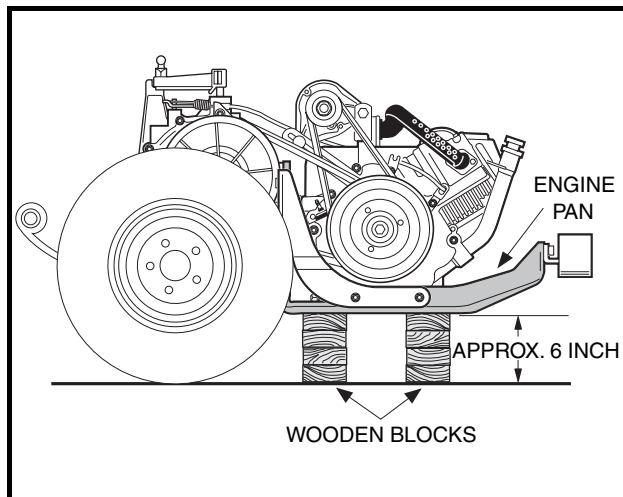

Figure 16-28 Position Powertrain
15. Place blocks under the engine pan so they will completely support the engine and keep it level to the floor (**Figure 16-28, Page 16-13**). **See following NOTE.**